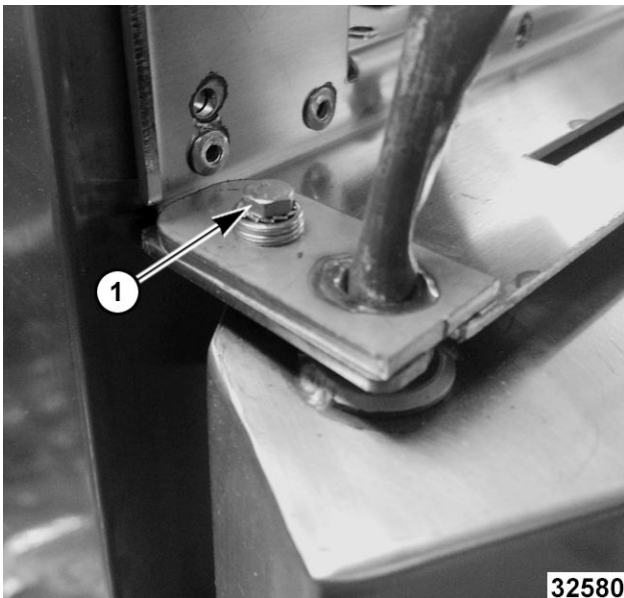

Fig. 44
5. Remove screw (1, Fig. 44) and washer.